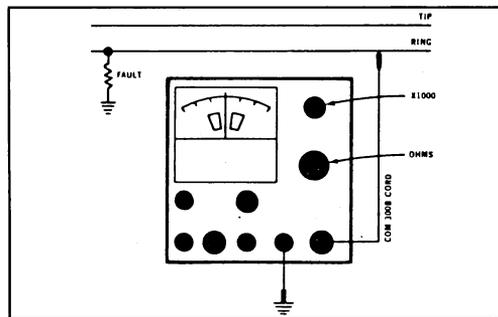

FIGURE 14
4.01 To verify the presence or absence of a ground on a vacant pair, make the cord connection and position the switches and Function Knob as shown in Figure 14. Always start with the Range switch in the X1000 position. If no constant deflection of the meter needle is encountered, this indicates the absence of ground on that side of the pair. Move the COM 300B cord to the opposite side of the pair. If a constant meter deflection occurs, determine the amount of resistance by adding three zeros to the reading on the scale. For example, a meter reading of 10K Ohms (10,000) becomes 10 Megohms (10,000,000). If the meter needle is deflected constantly to the far right of the scale, move the range switch to X1 and read the meter directly.